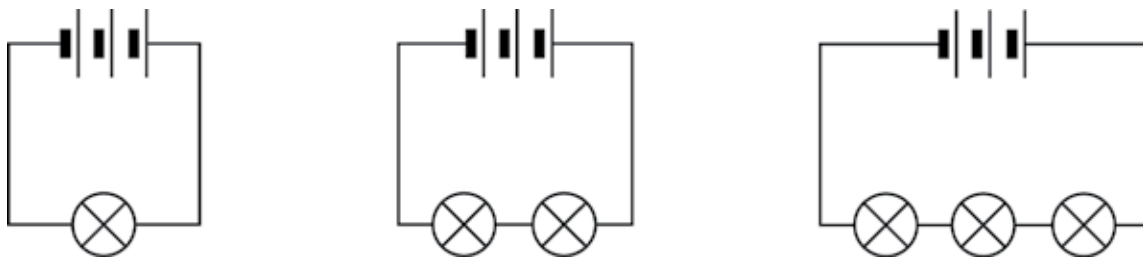

Figure 3: Bulbs connected in series
1. The diagrams in Figure 3 show you the circuits you are going to build. Before you build them, show your predictions of how bright the bulbs will glow on the diagrams using brackets as you did before. Then connect the components and test your predictions.